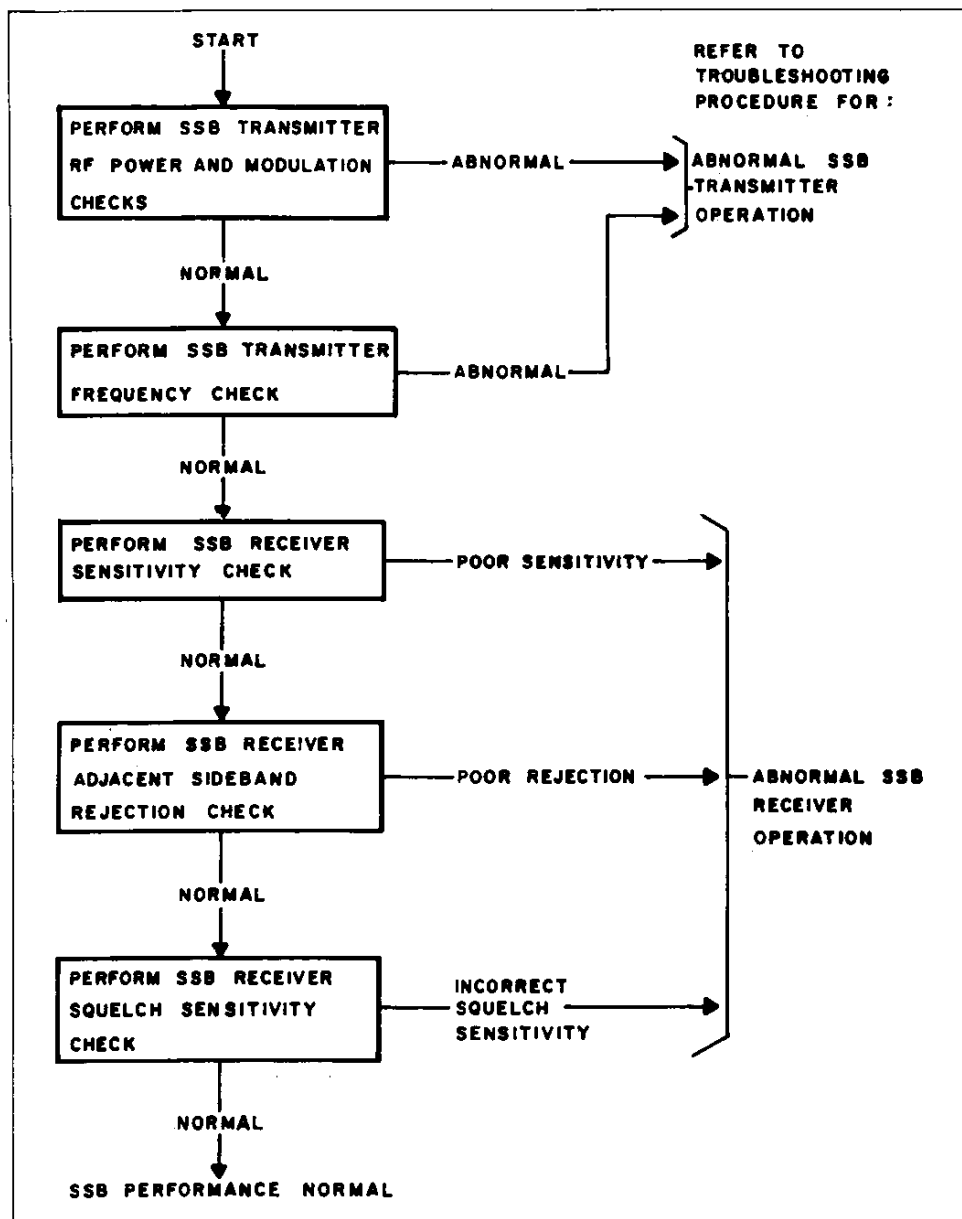

Fig. 25. Service Bench Diagnostic Check, SSB Modes
8. If an AM/SSB transceiver is being checked, perform as many steps of Fig. 25 as is required to be directed to a troubleshooting procedure. Use the referenced troubleshooting procedure to isolate and correct any malfunction. If an AM only transceiver is being checked, skip this step and proceed to step 10.
9. If troubleshooting and repair are required, recheck SSB operation by repeating the steps of Fig. 25, starting at the beginning. Repeat the steps as many times as required to successfully complete the SSB checks.